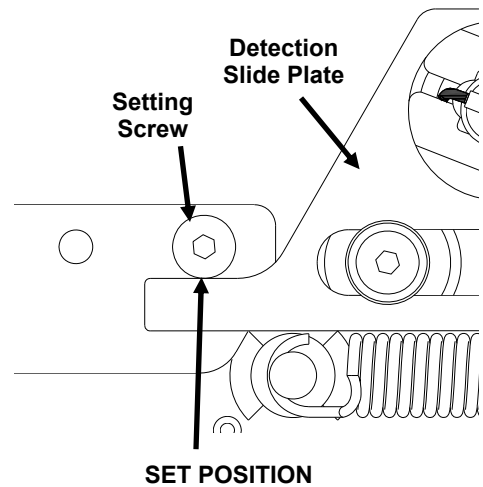

Figure 4-36.
- Continue rotating the Fusible Line Ratchet until the Setting Screw is in the SET POSITION. See Figure 4-36.